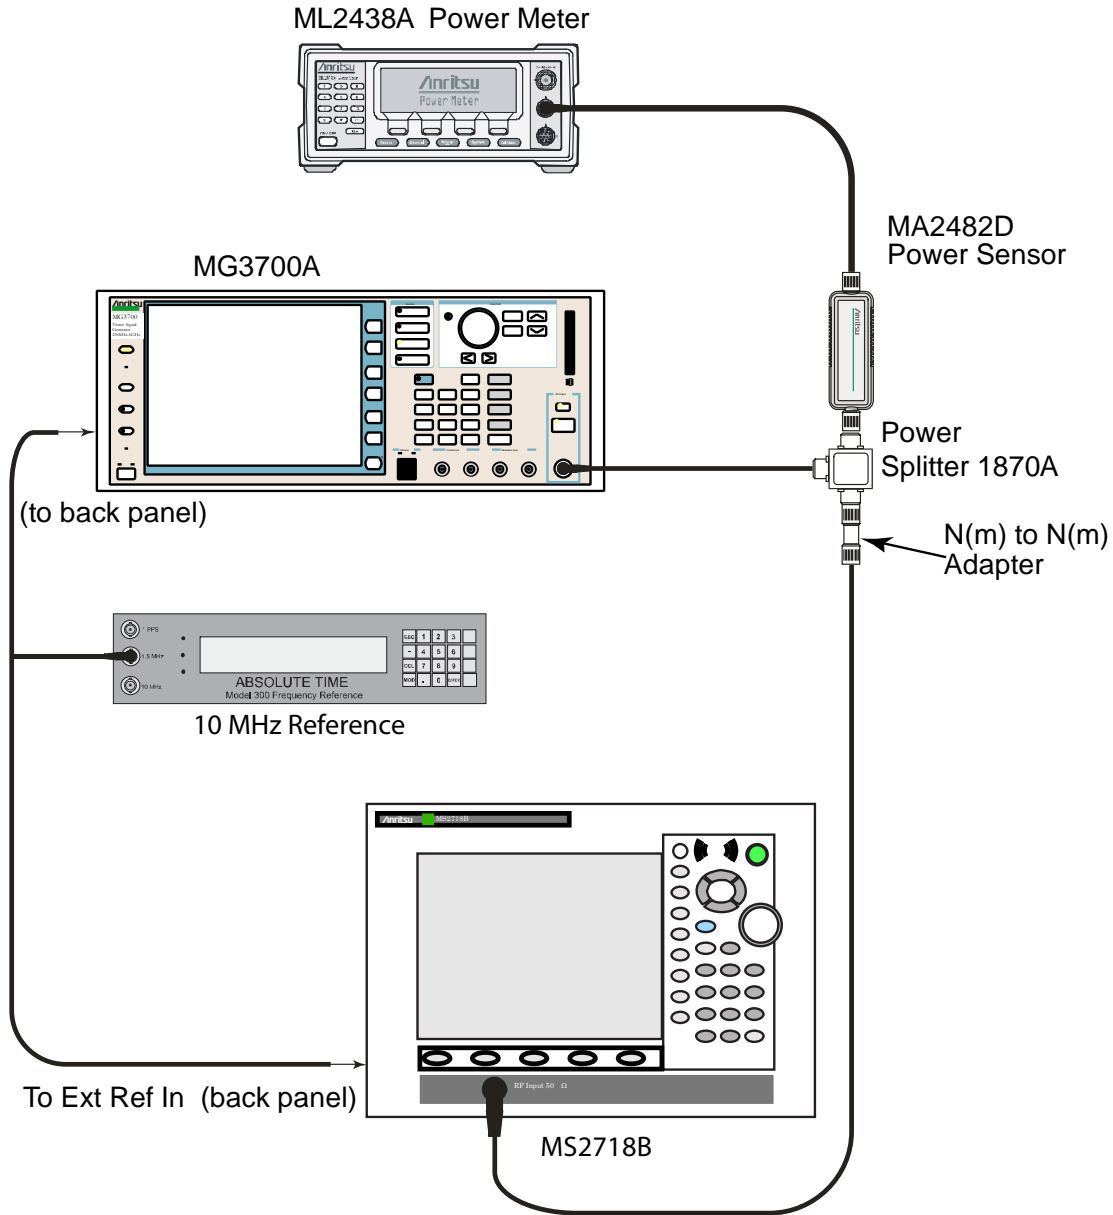

Figure 3-1. GSM/GPRS/EDGE Signal Analyzer Test Setup
1. Connect the equipment as shown in Figure 3-1.
4. Set the MS2718B or MS2719B mode to GSM/GPRS/EDGE Signal Analyzer. Press **Shift** and press **Preset** (1) to preset the MS2718B, MS2719B.
1. Ensure that the equipment settings are unchanged from the previous test. Refer to Figure 3-1.